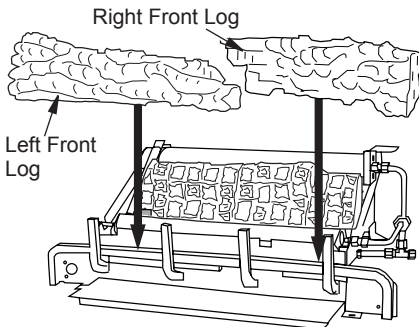

Figure 25 - Installing Left/Right Front Logs
2. Place front left and front right logs as shown in Figure 25.